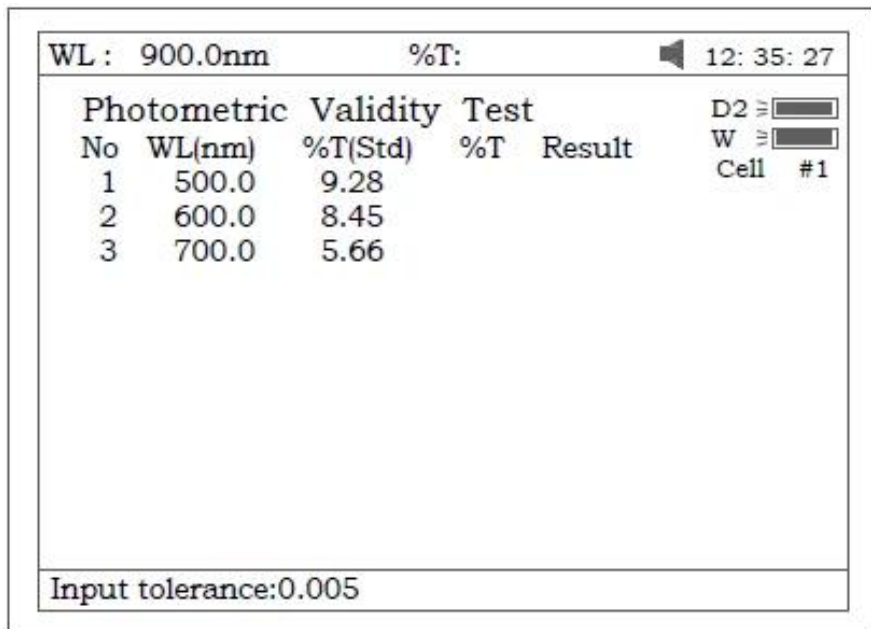

Figure 93
4. Press **【F3】** to set tolerance (Fig 93). Input the value by pressing the numeric keypad.